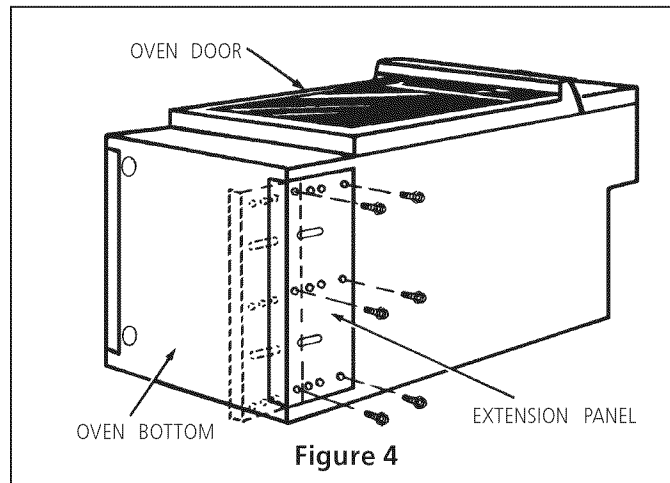

Figure 4
1. Lay oven on its back. (see figure 4).